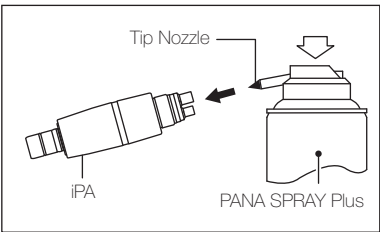

Fig. 5
- 1) Mount the tip nozzle into the spray can port. (Fig. 5)